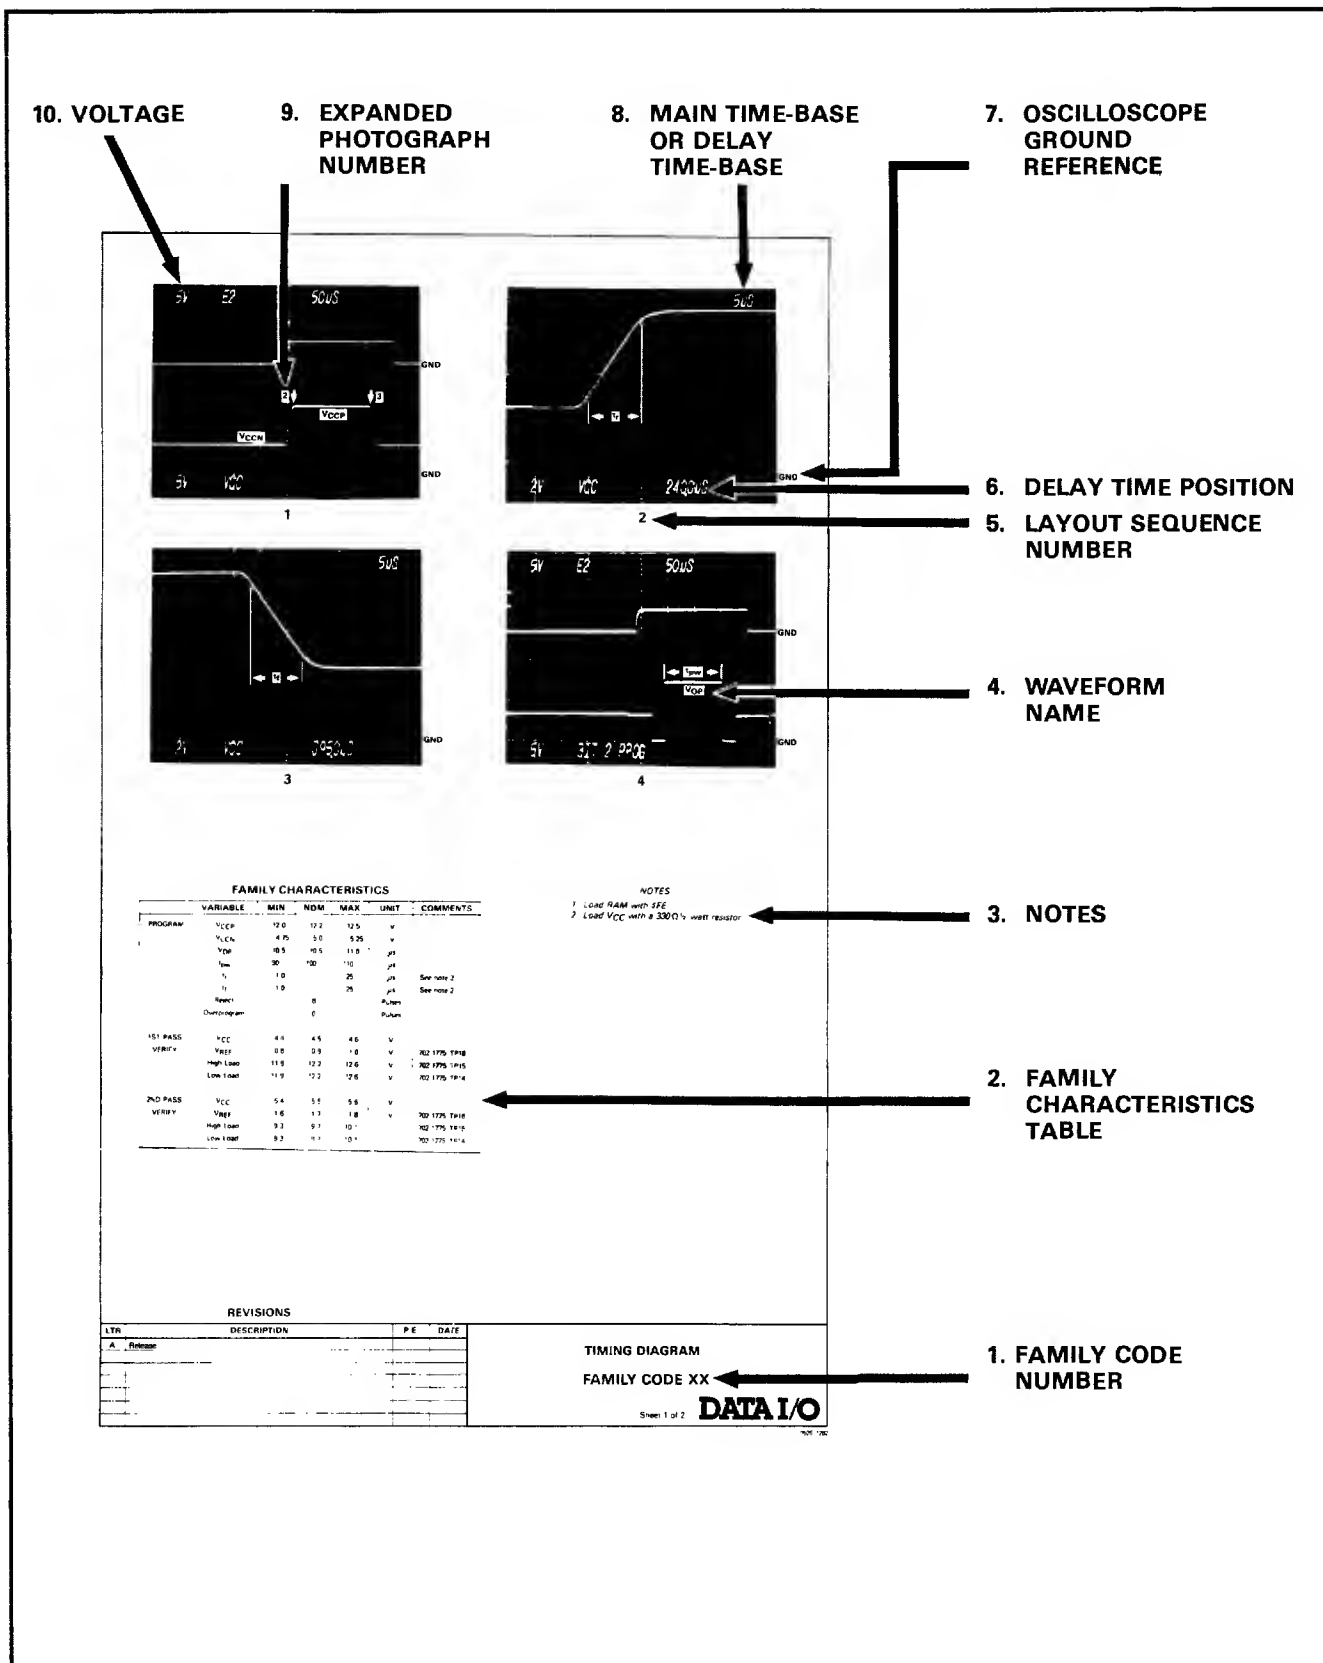

Figure 4-4. Sample Timing Diagram
9. To observe individual waveforms, refer to figure 4-4 under the pinout code number entered in step 3. The individual socket illustrations give the numbers of the socket contacts to probe when observing the waveforms on the timing diagram.
This manual contains a timing diagram for each device family that can be programmed by the 22A. Each timing diagram contains a set of waveform photographs that show critical programming parameters. To help you use these diagrams and photographs, read the information that follows and refer to the sample timing diagram (figure 4-4).